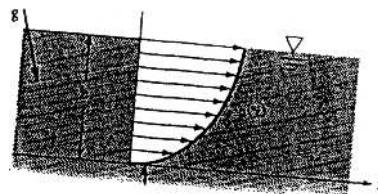

Fig. P4.36
- 4.43** For the draining liquid film of Fig. P4.36, what are the appropriate boundary conditions (a) at the bottom  $y = 0$  and (b) at the surface  $y = h$ ?